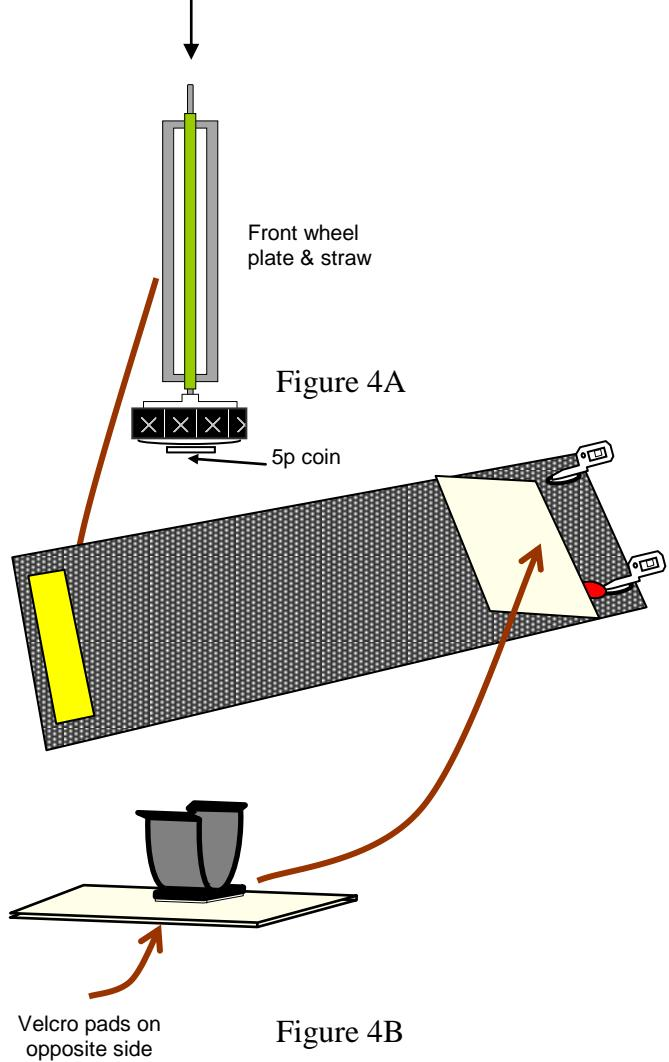

Figure 4B
4.2 Remove backing paper from adhesive strip on the black motor holder clip and attach it to centre of motor holder plate (**Fig. 4B**) on opposite side to Velcro pad. Make sure **motor holder is straight (perpendicular to long edge of the plate) and centred.**